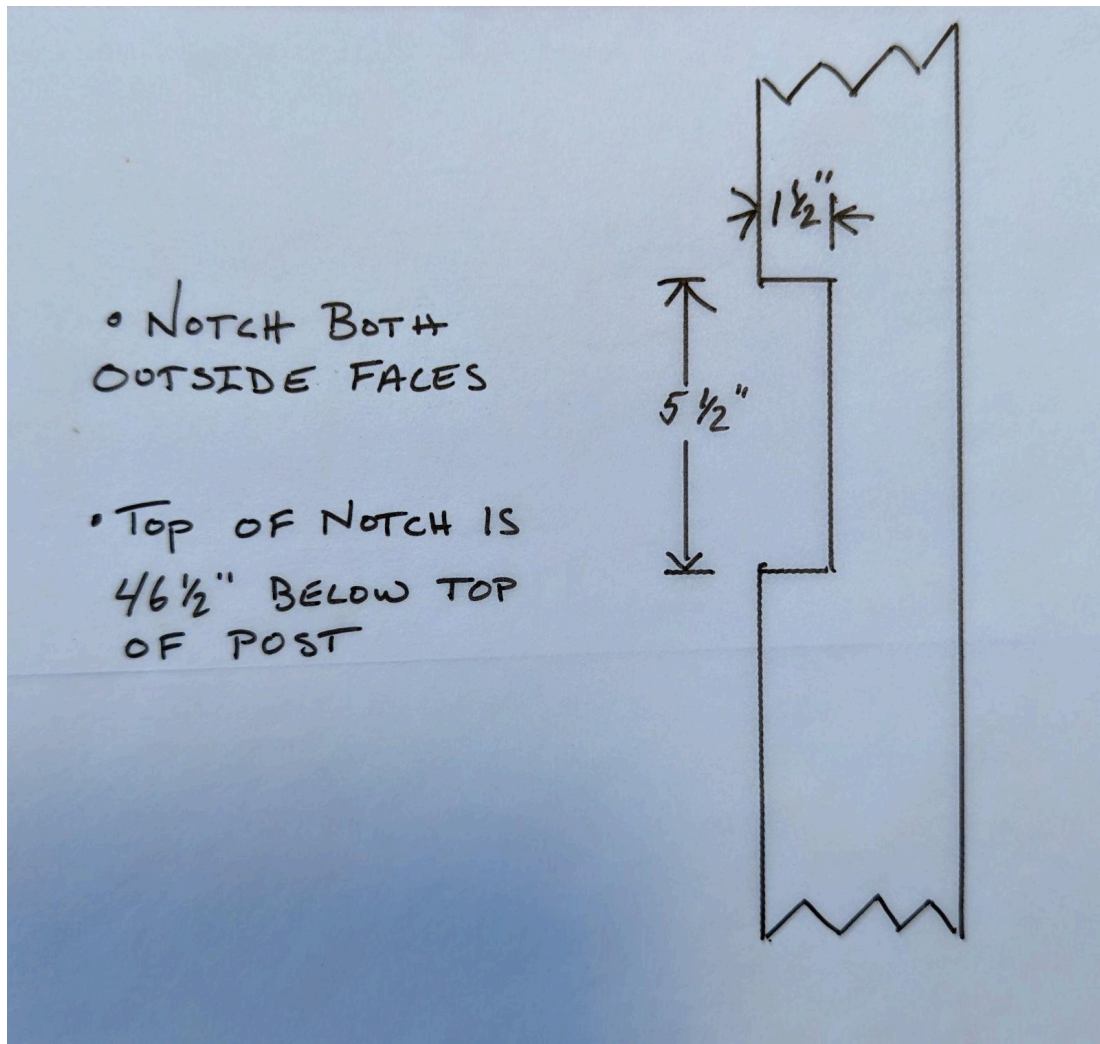

Figure 2
- Gather the 4x4 corner posts, measuring down from the top of each post, mark a line at 46 ½" and 52". Carry this line across 2 adjacent surfaces. The area in between these lines will be removed to a depth of 1 ½" - these will be the notches that accept the outside corners of your joists. We cut our notches with a circular saw with the blade set to a depth of 1 ½", and cleaned them up with a chisel. See Figure 2